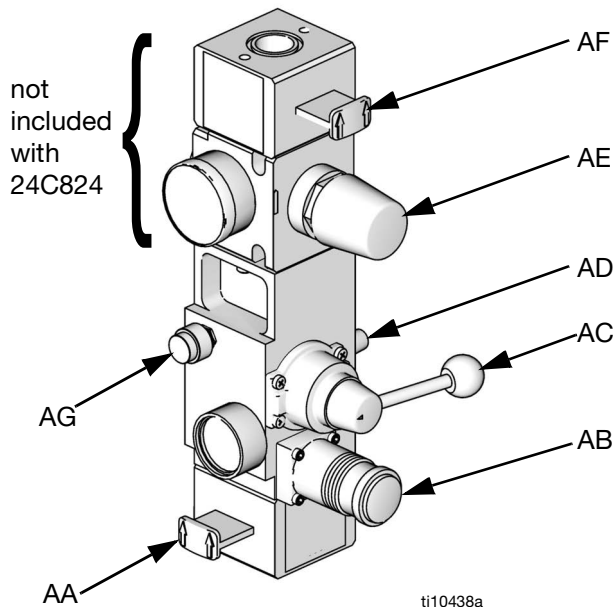

FIG. 2. Integrated Air Controls
- C Integrated Air Controls (see FIG. 2)